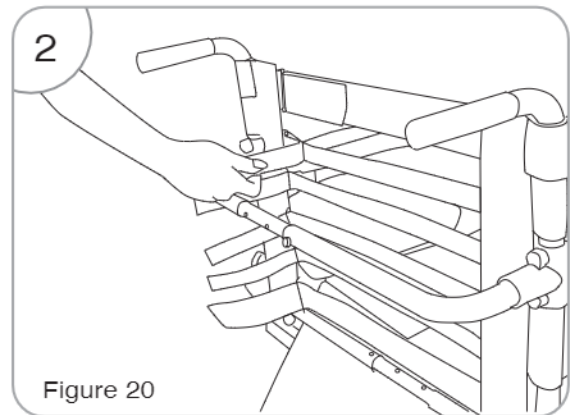

Figure 20
2. Release all backrest's vel-cro straps (See Fig. 20).